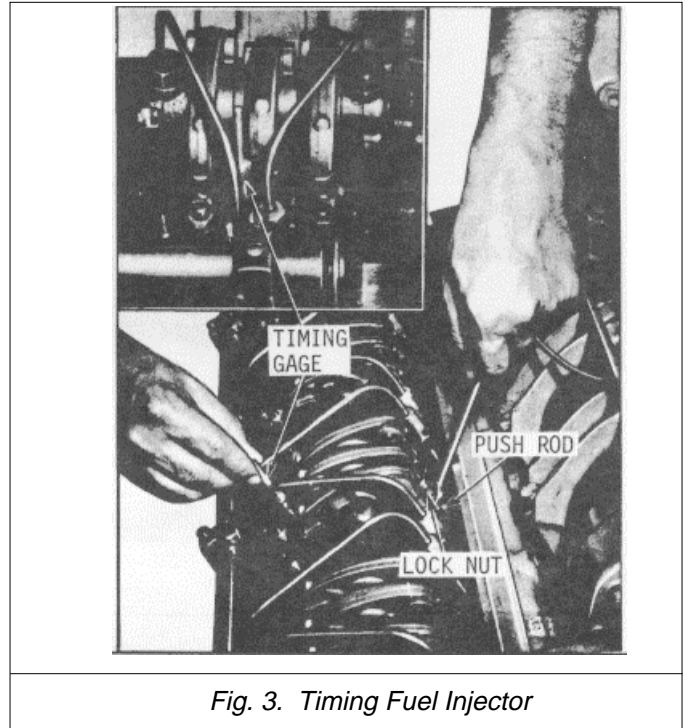

Fig. 3. Timing Fuel Injector
- (1) Clean the loose dirt from the exterior of the engine and remove the valve rocker covers. Then cover any drain cavities in the cylinder head to prevent foreign material from entering.
- (2) Place the stop lever in the no-fuel position.
- (3) Rotate the crankshaft, by using the starting motor or engine barring tool J 22582, until the exhaust valves are fully depressed on the particular cylinder to be timed. Important: If a wrench is used on the crankshaft bolt or camshaft nut at the front of the engine, do not turn the engine in a left-hand direction or the bolt or nut will be loosened.
- (4) Place the small end of the injector timing gauge in the hole provided in the top of the injector body, with the flat of the gauge toward the injector follower (Fig. 3).
- (5) Loosen the push rod locknut.
- (6) Turn the push rod and adjust the injector rocker arm until the extended part of the gauge will just pass over the top of the injector follower.
- (7) Hold the push rod and tighten the locknut. Check the adjustment and, if necessary, readjust the push rod.
- (8) Time the remaining injectors in the same manner as outlined above.
- (9) If no further engine tune-up is required install the valve rocker covers, using a new gasket.